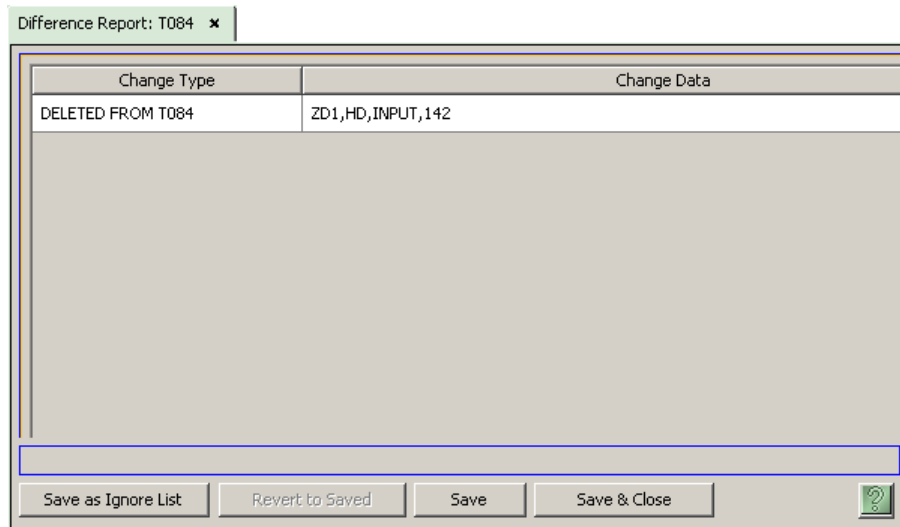

Fig. 5-6: Difference Report (Sample)
(1) It does not tell you to which physical level it applies. You will have to remember the physical level. If you are saving difference reports or ignore files (using the buttons at the bottom of the report window) be sure to identify in the file name to which level the report applies.
(2) The change data are incomplete. As an example, the change shown in Figure 5-6 involved two ports: input port 142 and output port 142, both belonging to device ZD1. The output port is missing from the difference report.